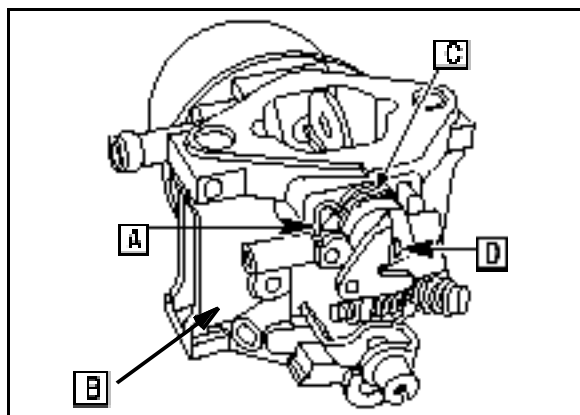

Fig. 61
8. Connect one spring end ([A] Fig. 61) to the carburetor body ([B]), the other end ([C]) to the choke lever ([D] Fig. 61) to hold choke plate open.